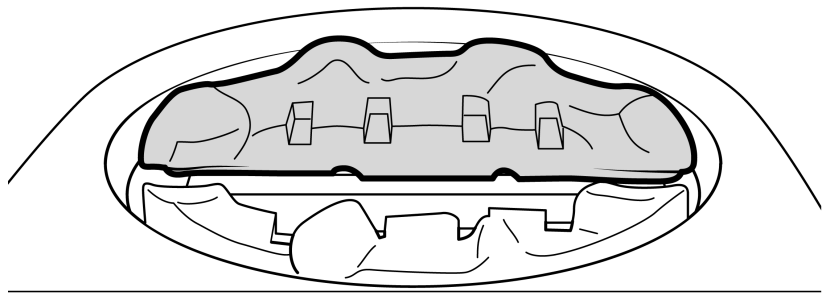

Figure 28 Rear base pebble location
2. The rear base pebble has a letter 'MB' on the underside. Locate the rear base pebble behind the burner (See figure 28)